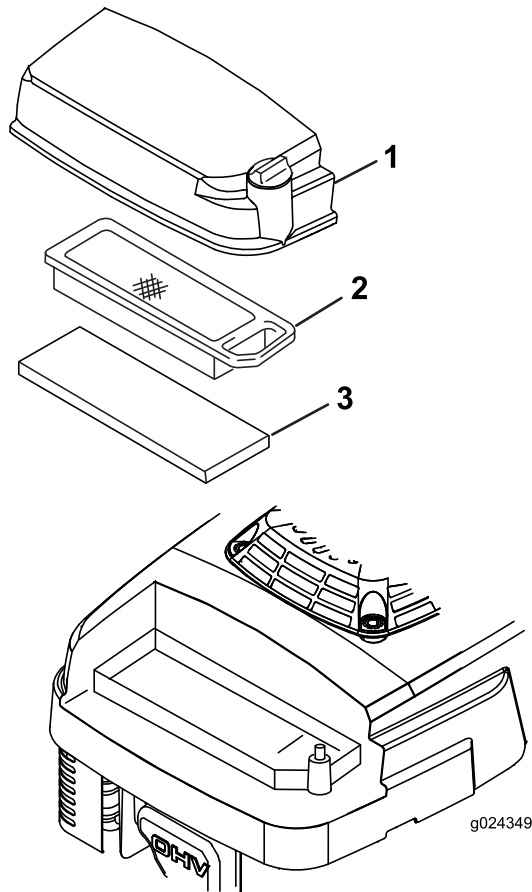

Figure 21
3. Loosen the screw on the air-filter cover (Figure 21).
5. Remove and inspect the paper air filter (Figure 21), and replace it if it is excessively dirty.
6. Remove the foam pre-filter (Figure 21) and wash it with a mild detergent and water, then blot it dry.